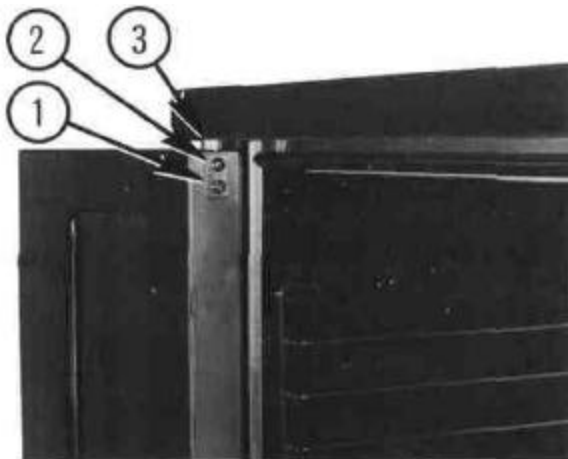

Figure 4-1
1. Remove lower screw (Fig. 4-1 No. 1) from upper hinge assembly of door.
2. Loosen top screw (Fig. 4-1 No. 2) from upper assembly.
3. Push upper hinge pin (Fig. 4-1 No. 3) into door.